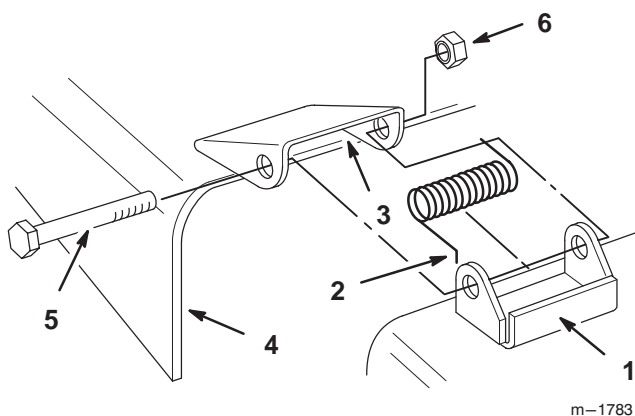

Figure 49
1. Remove the locknut, bolt, and spring holding the deflector to the mower brackets (Fig. 49). Remove the damaged or worn grass deflector.
2. Place the springs into the brackets on the mower with the hooked ends over the raised back (Fig. 49).
3. Align the grass deflector with the holes in the brackets and the spring straight ends in the space under the hinge and above the deflector (Fig. 49).